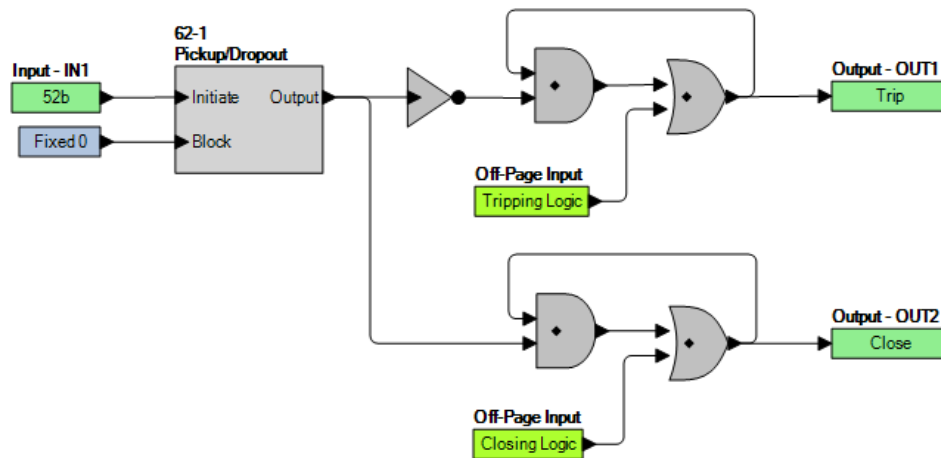

Figure 4-7. Contact Output Seal-In Logic Diagram
To prevent the output relay contacts from opening prematurely, a hold timer (200 to 2,000 ms) can be set with *BESTCOMSPlus*. If the protection engineer desires seal-in logic with feedback from the breaker position logic, he/she can provide this logic by modifying the logic for the tripping output. To do this, use one of the general purpose timers (62) and set it for Pickup/Dropout mode. Set the timer logic so that it is initiated by the breaker position input and set the timer for two cycles pickup and two cycles dropout. The same can be done for the closing output. Figure 4-7 provides a seal-in logic diagram.